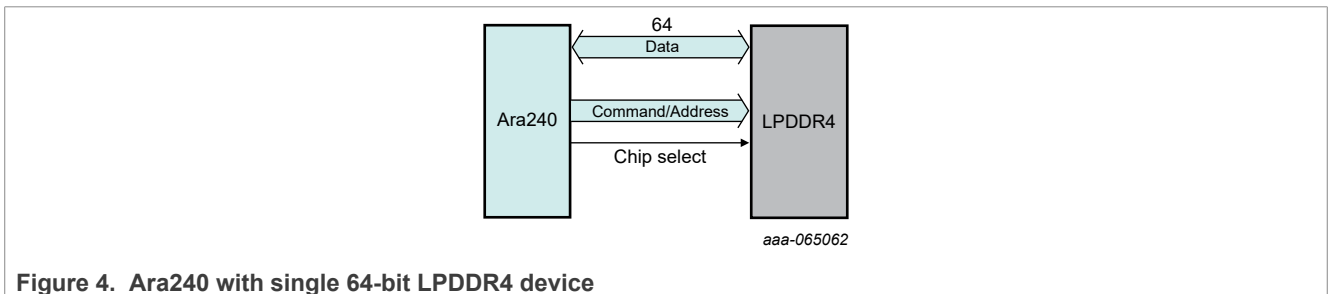

Figure 4. Ara240 with single 64-bit LPDDR4 device
- Single 64-bit LPDDR4 (Figure 4)